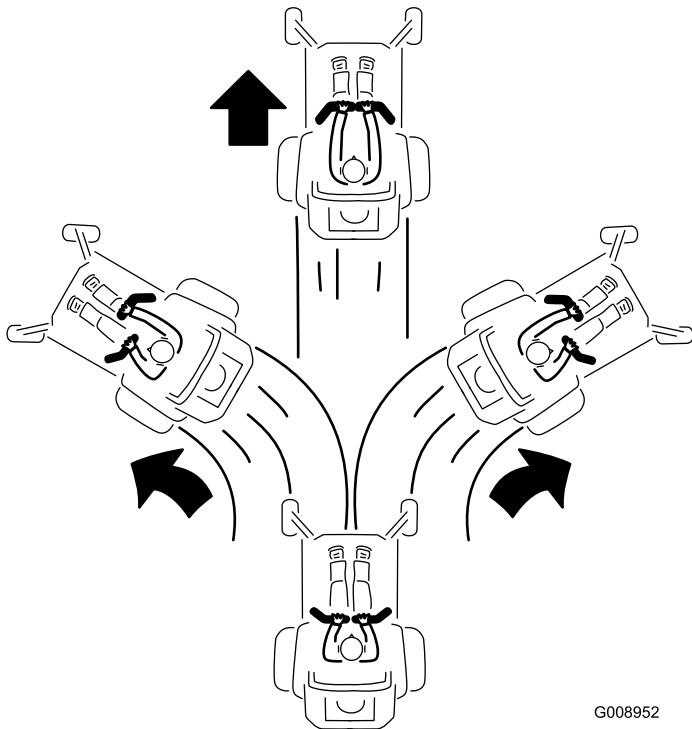

Figure 20
3. To go forward, slowly push the motion control levers forward (Figure 20).